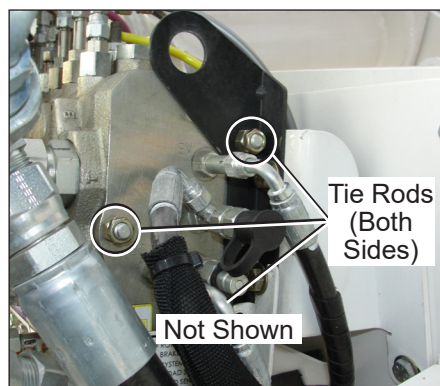

Figure 3 — Lower Control Valve Tie Rods
6. Remove the six jam nuts from the tie rods (refer to Figure 3).